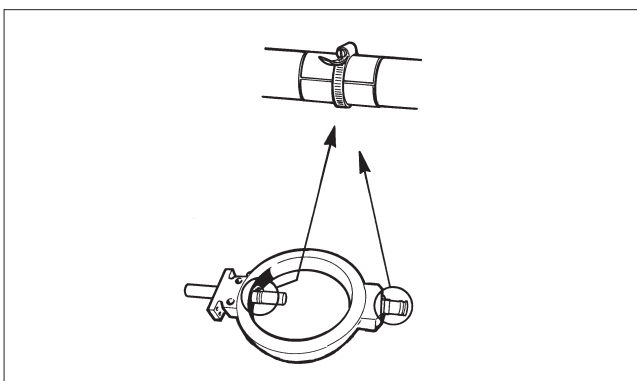

Fig. 17 Mounting the H-construction bearings
**H-construction:** Mount the bearing into the shaft. Spray a thin layer of dry lubricating fluid, e.g. Molykote 321R or equivalent, into the inside surface of the bushing and the shaft bearing area. Press the bushing with a tightening ring into the shaft bearing area and fit the shaft with the bearings carefully into the body through the tightening ring (see Fig. 17).